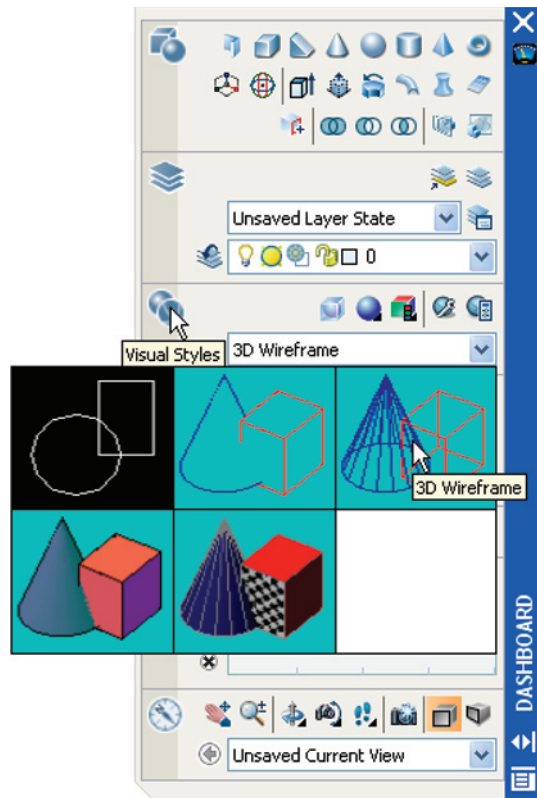

Fig. 16.2 Selecting **3D Wireframe** from **Visual Styles**
3. *Click* the arrow to the right of the **Visual Styles** field in the **Visual Styles** control panel and select **3D Wireframe** from the icons which appear in a popup (Fig. 16.2).